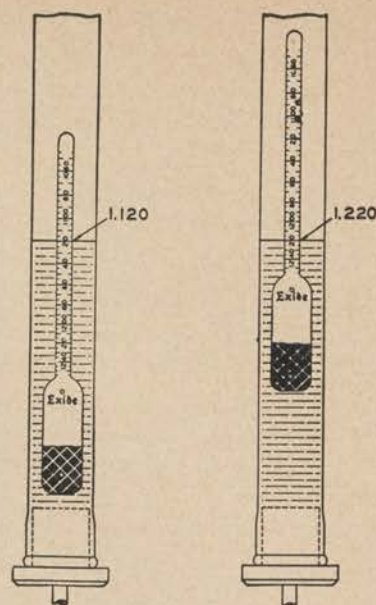

Figure 285. Hydrometer readings and syringe.
2. Determine the specific gravity by allowing an hydrometer to float in the electrolyte. When the specific gravity is high or strong, the hydrometer will not sink as far into the liquid or electrolyte as when the specific gravity is low or weak. (See fig. 285.)
3. To take an hydrometer reading, insert the nozzle of the hydrometer syringe (fig. 285) in the electrolyte, squeeze the bulb and slowly release it, drawing up enough electrolyte to float the hydrometer freely. Holding the syringe vertically, the reading on the stem of the hydrometer at the surface of the electrolyte is the specific gravity of the electrolyte. After reading, return the electrolyte to the same cell.